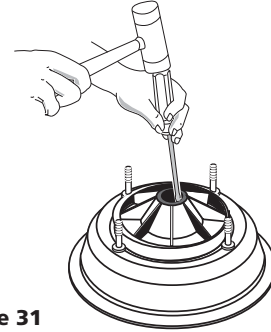

Figure 31
- Place pump body half face down on flat surface and tap out stationary half of seal (See Figure 31).